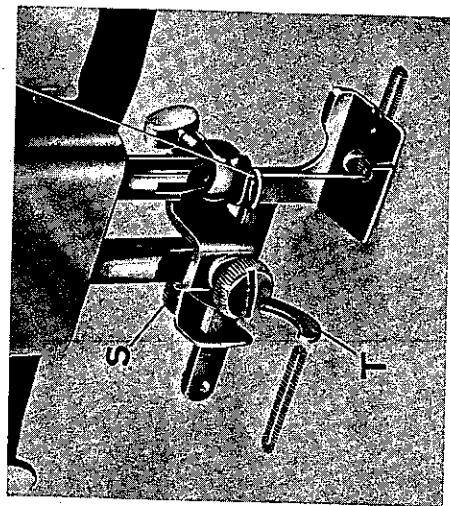

Fig. 32
1. Remove zig-zag stitch hinged foot and attach buttonhole foot to presser foot bar (see General Instruction No. 6) (see Fig. 32).
10. Loosen thumb screw "S" on buttonhole foot (Fig. 32) and move index "I" either forward or backward to set for desired length of buttonhole.